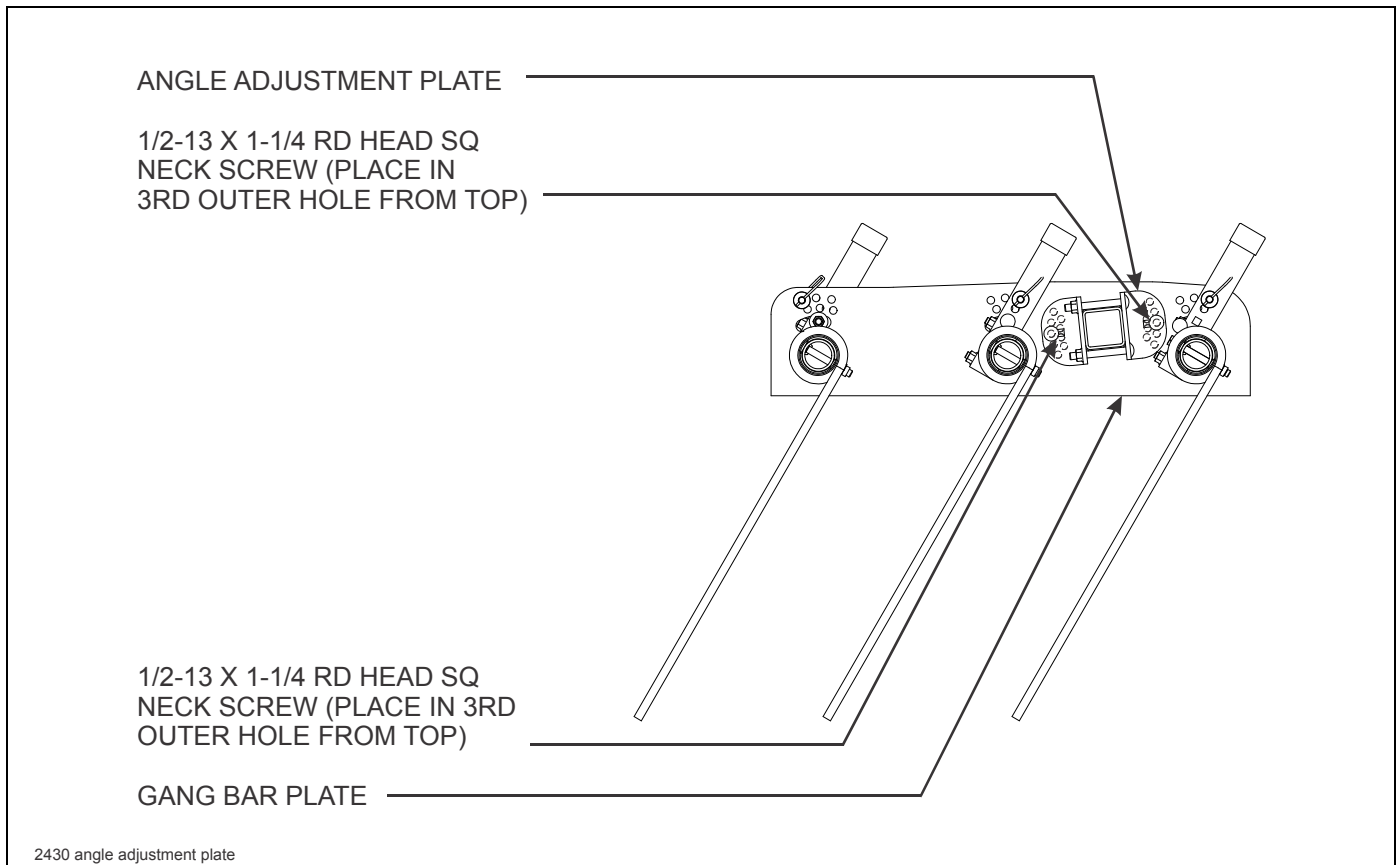

Figure 3-27: Angle Adjustment Plate Installation
6. Install 1/2-13 x 1-1/4 round head square neck screws through angle adjustment plate and gang bar plate as shown in Figure 3-27.